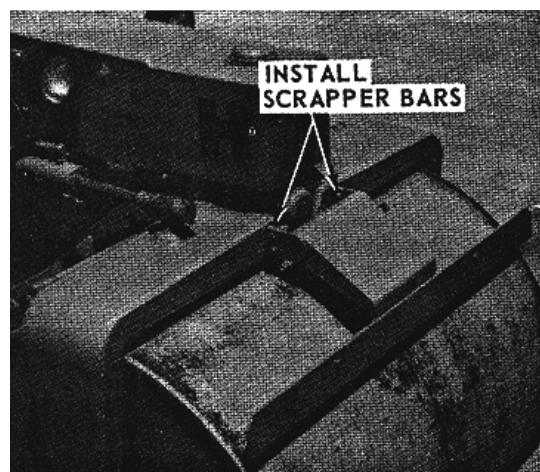

FIGURE 9-115.
f. Install the front scraper bar. Lubricate the axle shaft assembly (refer to Section 4). See figure 9-115.